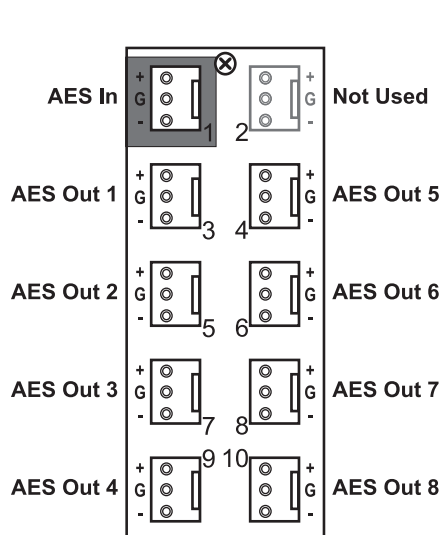

Figure 2.2 Cable Connections for the 8310AR-042 and 8320AR-042 Rear Modules
- **8310AR-042** Full Rear Module — Each rear module occupies one slot and accommodates one card. This rear module provides one AES input and eight AES outputs. (Figure 2.2)
- **8320AR-042** Full Rear Module — Each rear module occupies two slots and accommodates one card. This rear module provides one AES input and eight AES outputs. (Figure 2.2)